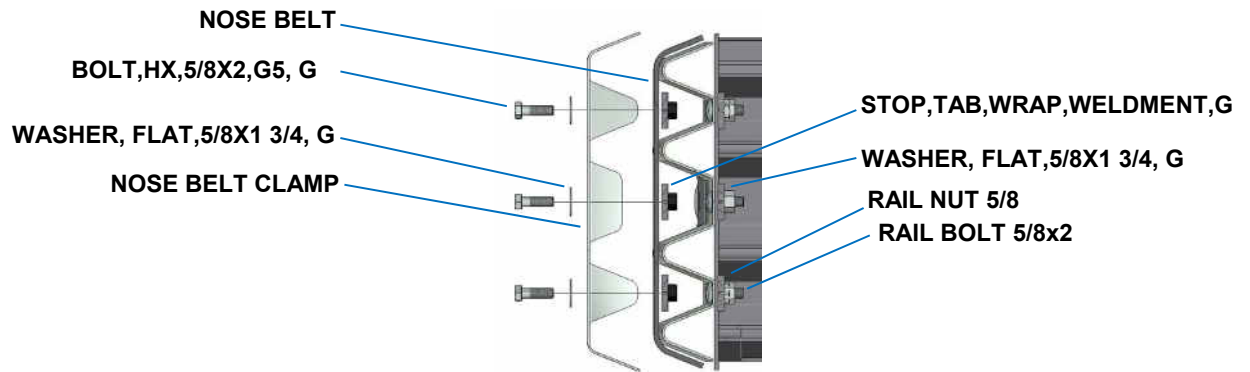

Figure 29
Finally attach the Nose Belt to the Fender Panels using 5/8" x 2" long hex bolts (6), 5/8" flat washers (24) and 5/8" hex nuts (18), through the Belt Clamps (Figure 29).